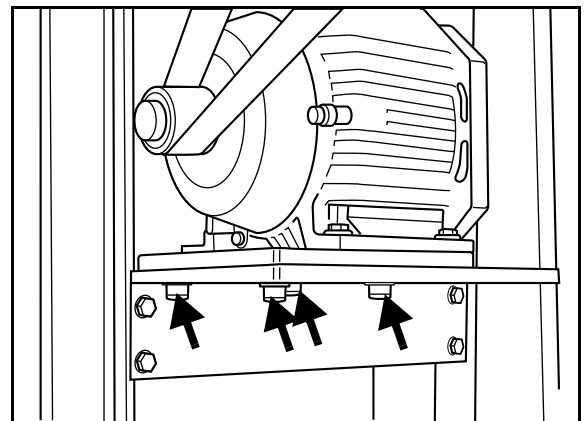

Fig. 14
- The timing belt from the motor is adjusted by loosening the screws which hold the motor, and moving the motor sideways, see Fig. 14.